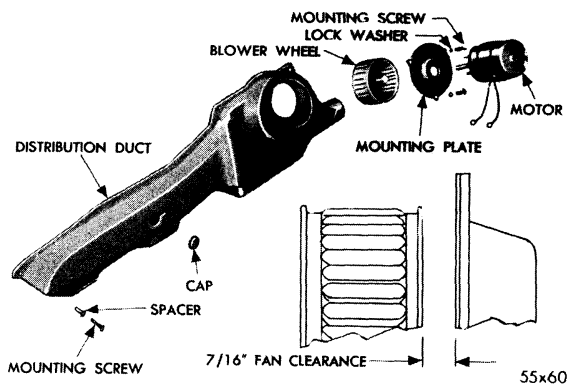

Fig. 17—Assembled Blower and Motor to Distribution Duct
- (4) Remove core.
- (5) When installing housing be sure to draw bolts up evenly. Alternate from top to bottom working from the center out. Fill cooling system, check for leaks with engine running and temperature control set to warmest position. Check blower and defroster for proper operation.
13. REMOVING DEFROSTER MOTOR (Fig. 17)
- (3) Remove screws attaching defroster motor mounting plate to distributor duct and remove motor and fan assembly.
- (4) When installing fan on motor shaft; adjust the fan clearance between edge of fan wheel and mounting plate to $\frac{7}{16}$ inch, as shown in Figure 17.